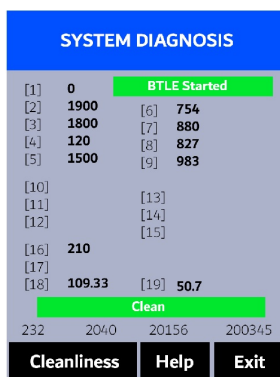
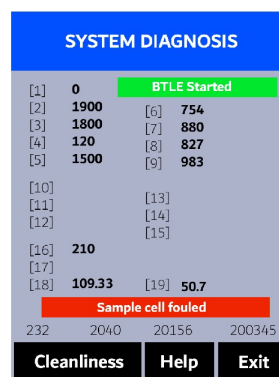

Figure 19.
Figure 20.
8. Once the Cleanliness Check is completed a **Clean** message (Figure 19) or **Sample cell fouled** message (Figure 20) will appear towards the bottom of the display.